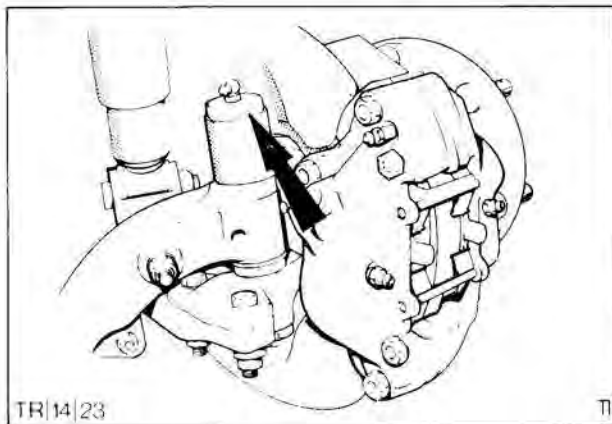

Fig. 23. Removing kingpin nut.
10. Unscrew kingpin nut, Fig. 23, and copper shims and remove.